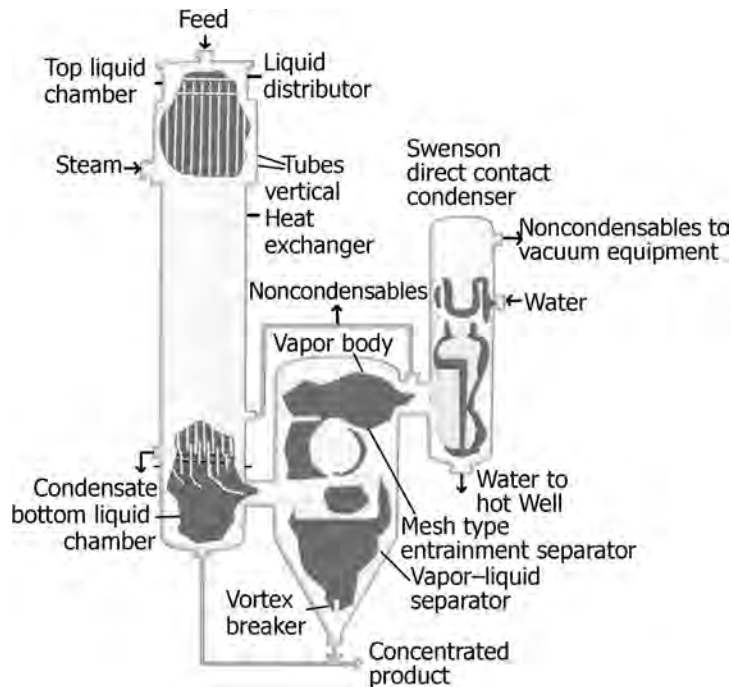

FIGURE 11.19 Swenson falling film evaporation unit. (Courtesy: Swenson Technology, Inc.)
- A Swenson single effect, LTV falling film evaporator with separate vapor body and heat exchanger is shown in Figure 11.19.